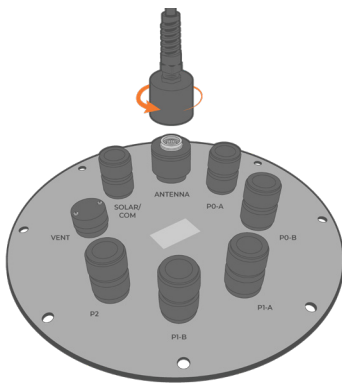

Figure 2: Rotate the antenna port counterclockwise.
- a. Rotate the RF cable counterclockwise (Figure 2) to ensure the cable is straight once threaded onto the antenna port.